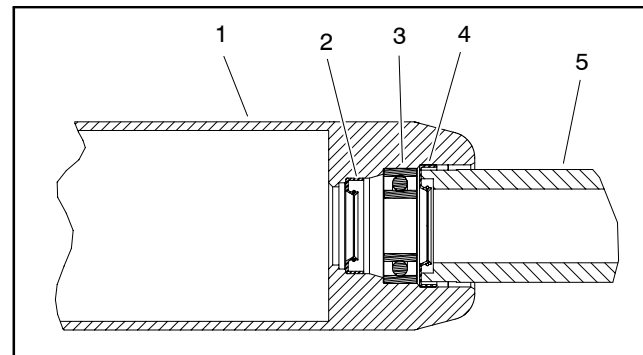

Figure 22
C. Install first outer seal into roller tube making sure that seal lip (and garter spring) faces end of tube. Use bearing/outer seal tool (see Special Tools) and soft face hammer to lightly seat seal against roller shoulder (Fig. 22). Make sure that bearing still freely rotates after seal installation.